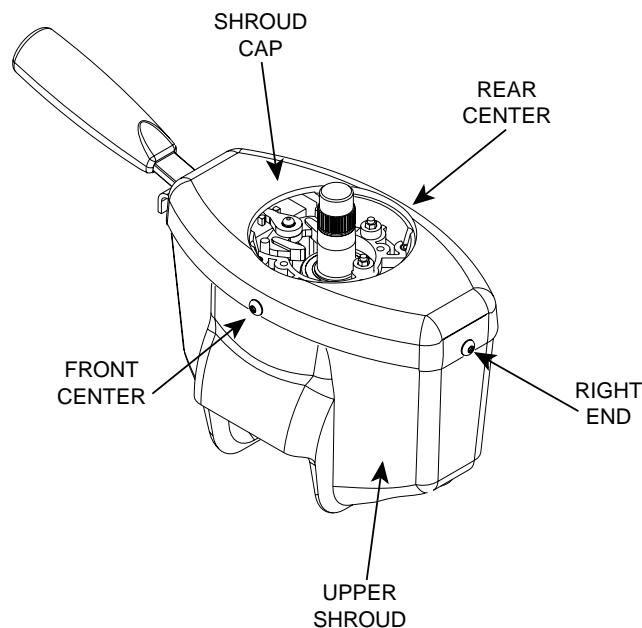

Figure 1
2. Using a punch or a nail, mark locations for drilling three (3) holes through the steering column shrouding. Hole centers should be marked 3/16" above the bottom of the lip of the Shroud Cap in the following locations: front (facing driver) center, rear (facing dashboard) center, and right end (opposite of turn signal switch) center. See Figure 1.